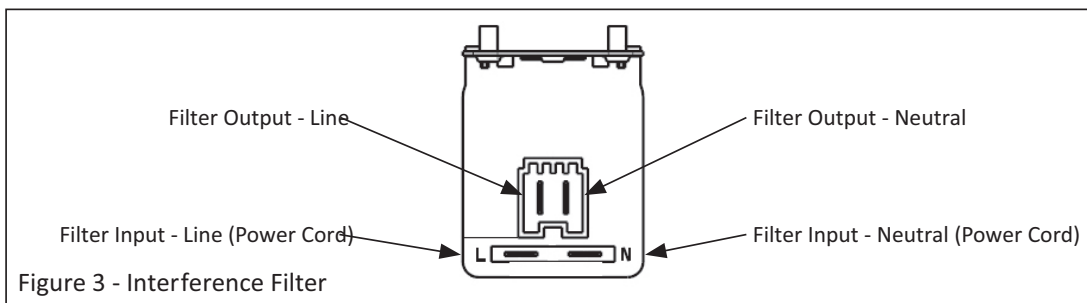

Figure 3 - Interference Filter
7. With a voltmeter set to AC, check for line voltage at the input of the interference filter. See Figure 3.
8. With a voltmeter set to AC, check for line voltage at the output of the interference filter. See Figure 3.